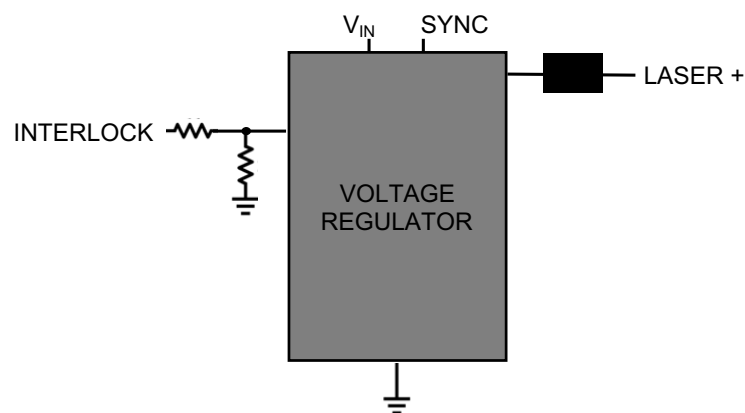

Figure 6.1: Simplified INTERLOCK connection schematic
- IN_VREG_INTERLOCK Gates the main voltage regulator chip on the driver card, effectively the DC power supply. Schematized in Fig. 6.1.